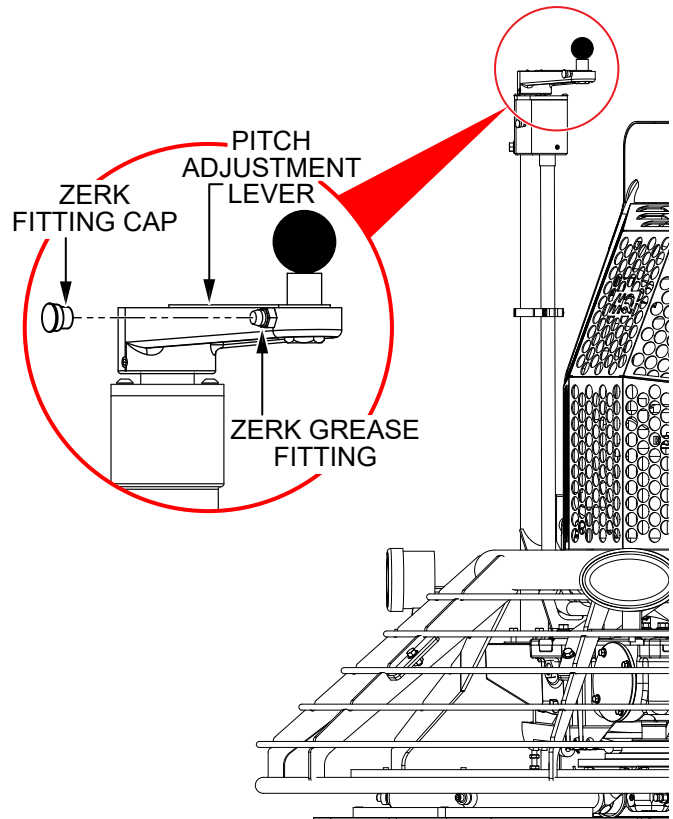

Figure 39. Pitch Adjustment Lever Lubrication
1. Locate the Zerk grease fitting next to the knob on either pitch adjustment lever (Figure 39). Remove the Zerk grease fitting cap and set it aside.